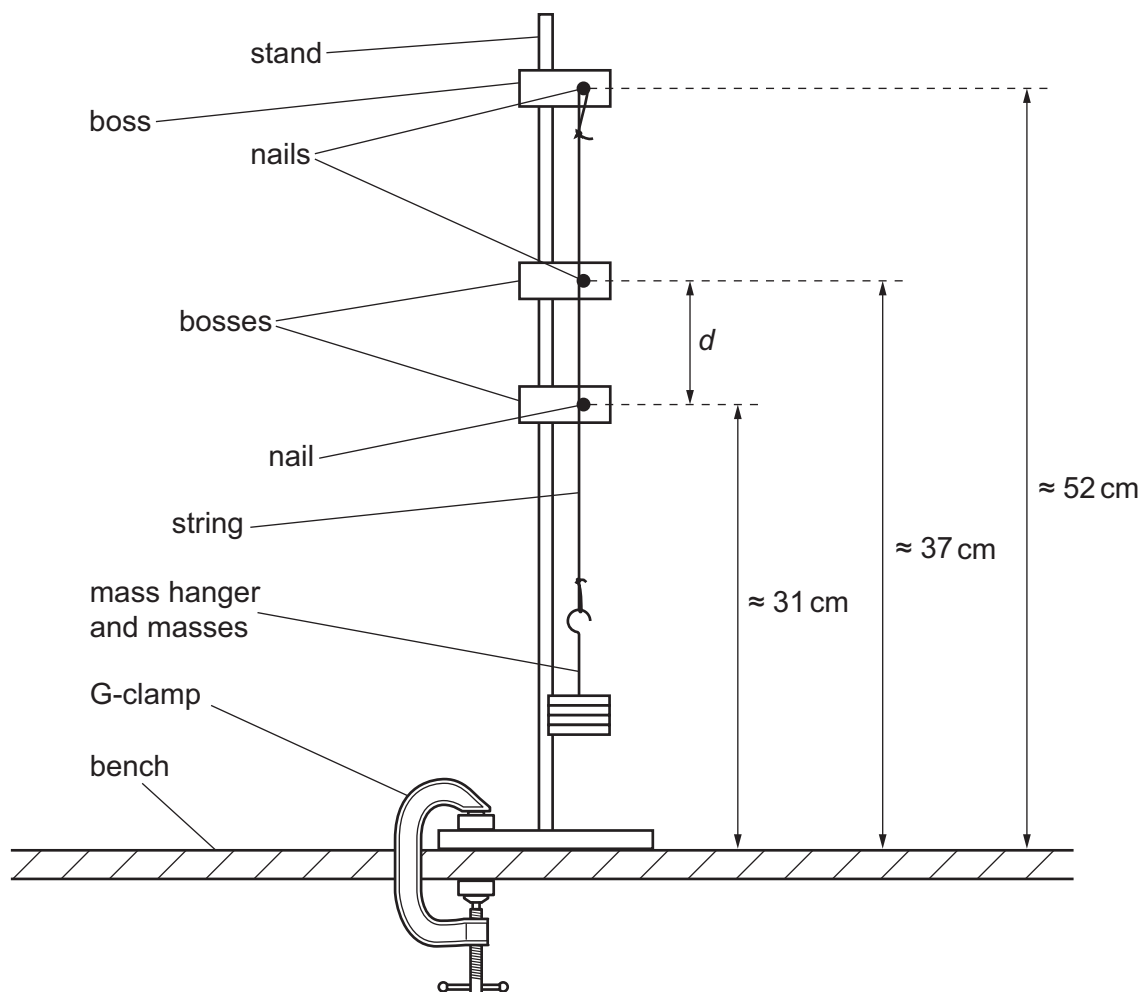

Fig. 2.1
(a) • Set up the apparatus as shown in Fig. 2.1.
- The distance between the two lower nails is d , as shown in Fig. 2.1.